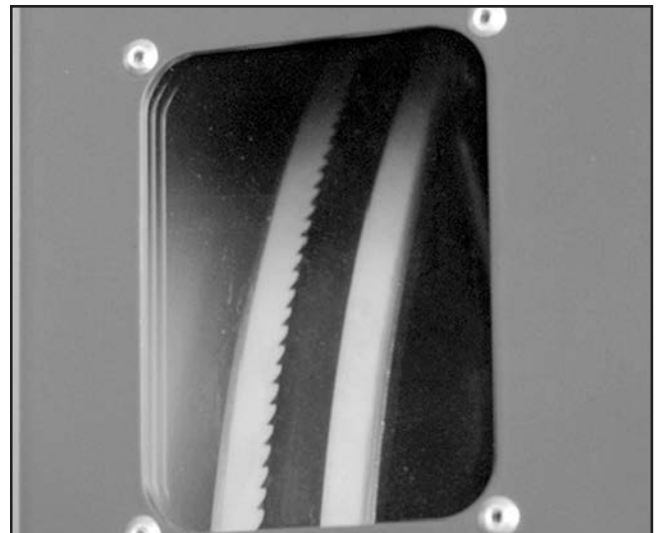

Figure 66. Blade tracking window.
2. Observe the blade tracking path through the clear window on the right edge of the bandsaw, as shown in **Figure 66**.